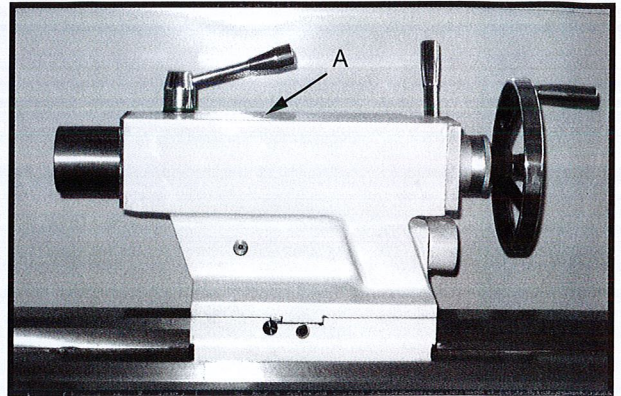

Fig.8
8. **Tailstock:** Lubricate one ball oiler (A, Fig. 8) on top of tailstock with Mobil DTE® Oil Heavy Medium oil daily.